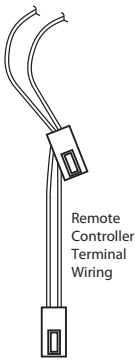

Figure 1: Remote Controller Terminal Wires
- 2) Disconnect the Remote Controller from the Remote Controller Terminal wires that is connected to the circuit board (Figure 1).